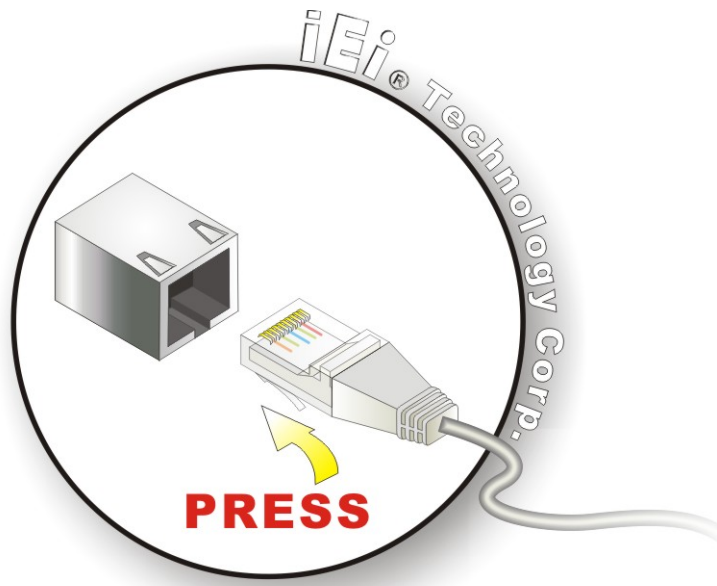

Figure 3-10: LAN Connection
Step 2: **Align the connector.** Align the RJ-45 connector on the LAN cable with the RJ-45 connector on the bottom panel of the AFOLUX LX. See **Figure 3-10**.